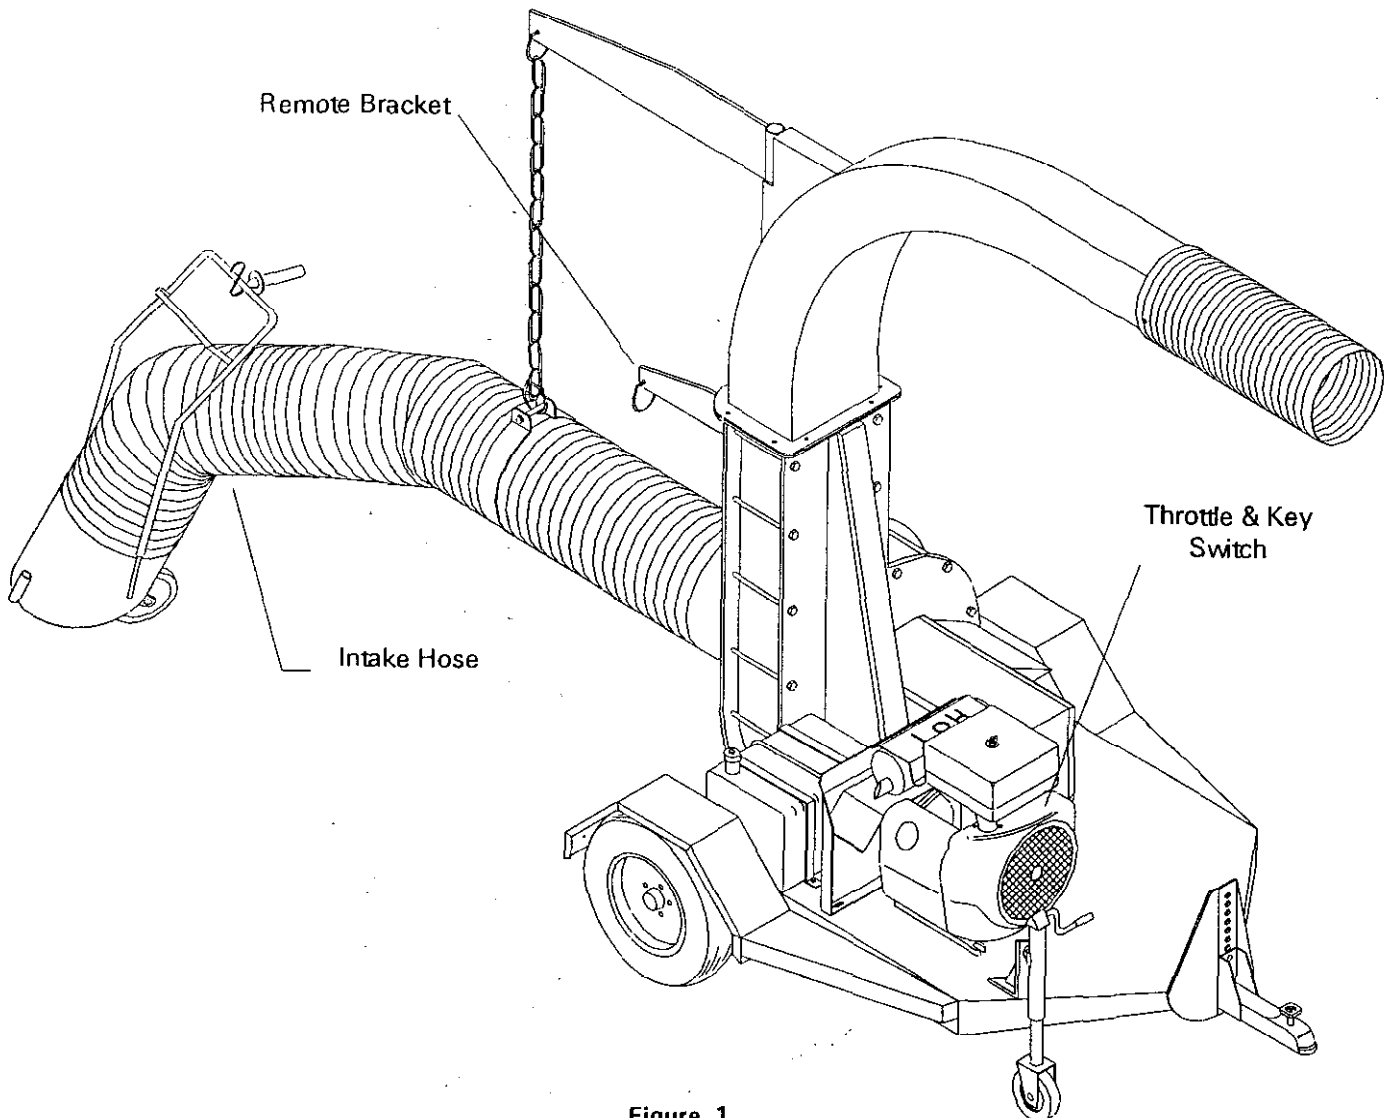

Figure 1
## THROTTLE CONTROL (Fig. 1)
## INTAKE HOSE (Fig. 1)
## KEY SWITCH (Fig. 1)
5. Remove the hose assembly from the remote bracket (See Fig. 1) and pin and begin picking up debris.